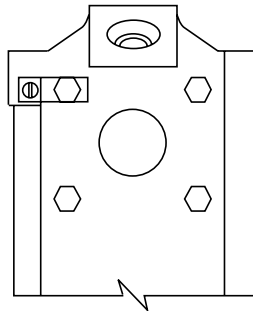

Figure 4.
**NOTE:** If using PVC conduit, you must attach grounding wire to grounding lug on upper left mounting bolt positioned, see Figure 4, on page 6.
6. Wrap a length of the cord up to a maximum of eight (8) feet long on the back of the light assembly. Wind a maximum of three (3) wraps of cord so the last wrap stops at the top of the light. This extra cord allows you to bring the light out of the pool to install a new lamp and for servicing.